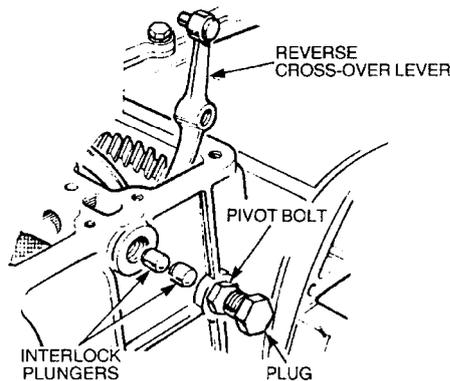

Figure 153 Removing the Interlock Plungers and Reverse Crossover Lever
- k. Remove the plug retaining the two interlock plungers in the cross drilling (Figure 153) and remove the plungers.
- l. Remove the lock wire and pivot bolt and lift out the reverse crossover lever (Figure 153).